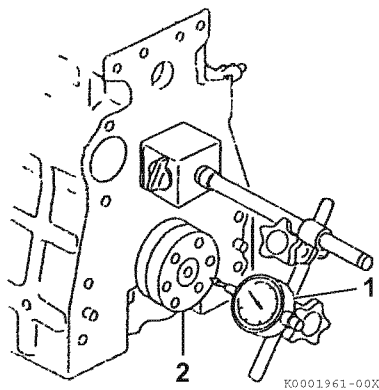

Figure 6-52
- **Method A:** Install a dial gauge (**Figure 6-52, (1)**) on the cylinder block. Move the crankshaft (**Figure 6-52, (2)**) in and out to measure the end play. Record the measurement.